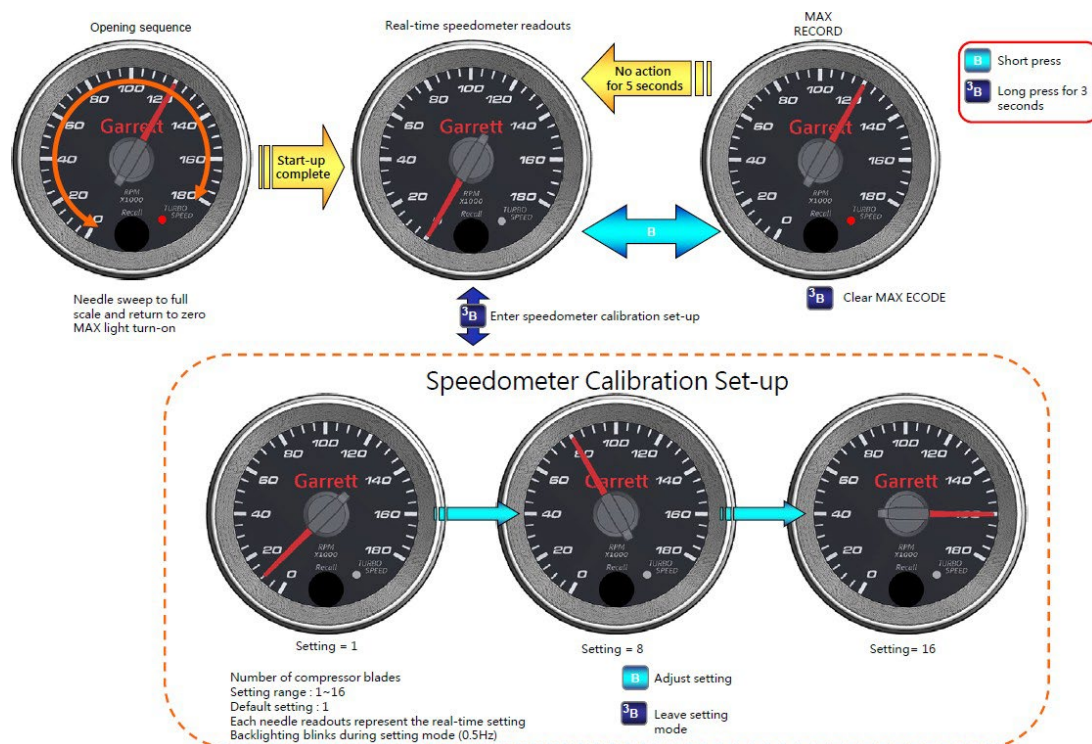

Fig. 17
2. Set the gauge for your particular compressor wheel. Long press the button on the dial face for 3 seconds to enter the calibration mode to define the number of compressor blades based on **figure 17** below. (If you desire to use the sensor to pick up a single magnet or machined flat on a shaft, choose 1 blade, or 2 blades if there are 2 magnets or flats, etc.)